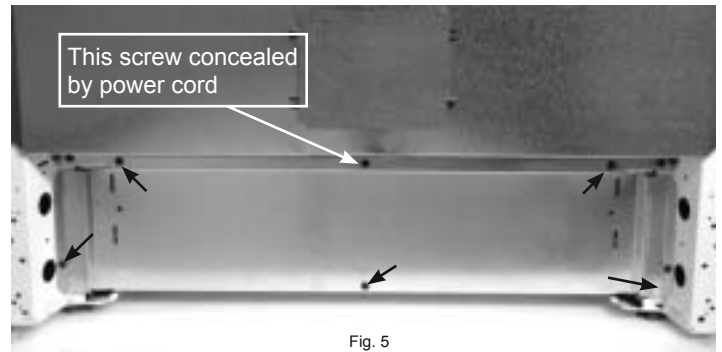

Fig. 5
2. Carefully position the receptacle behind the front chassis and install the mounting screws (Fig. 5)
From the rear of the range remove the six screws that secure the lower rear shield. ( Fig. 5 )